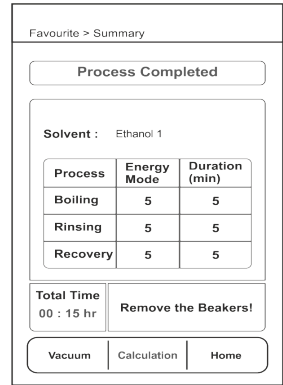

Fig. No. 30.1
f. **Process Completion** (Ref. Fig. No. 30.1)